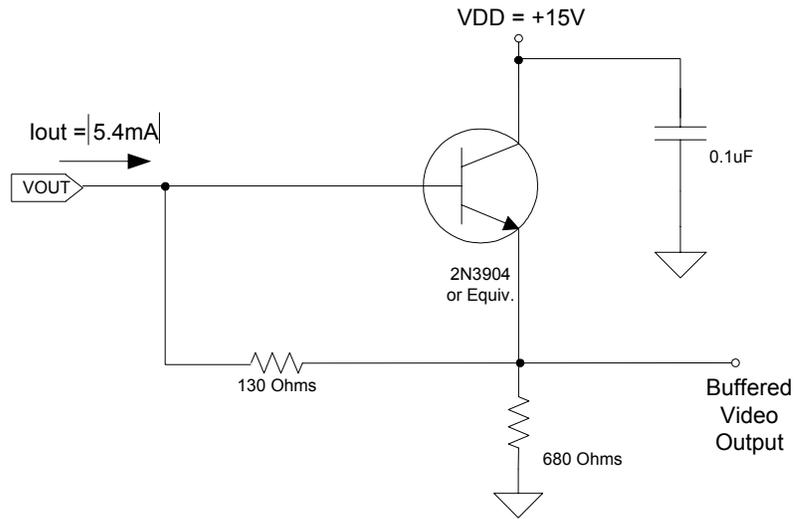

Figure 3 – Recommended Output Structure Load Diagram
clocked to remove the signal and FD is reset to the potential applied by reset drain (RD). Increased signal at the floating diffusion reduces the voltage seen at the output pin. To activate the output structure, an off-chip load must be added to the VOUT pin of the device. See Figure 3.